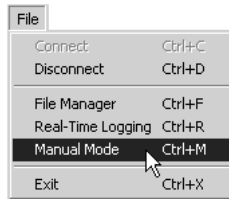

Figure 2-24. File->Manual Mode
- Once connected, click on **File->Manual Mode** to create a daisy chain between the receiver's port (A or D) and the HiPer+ PDL modem (Figure 2-24).